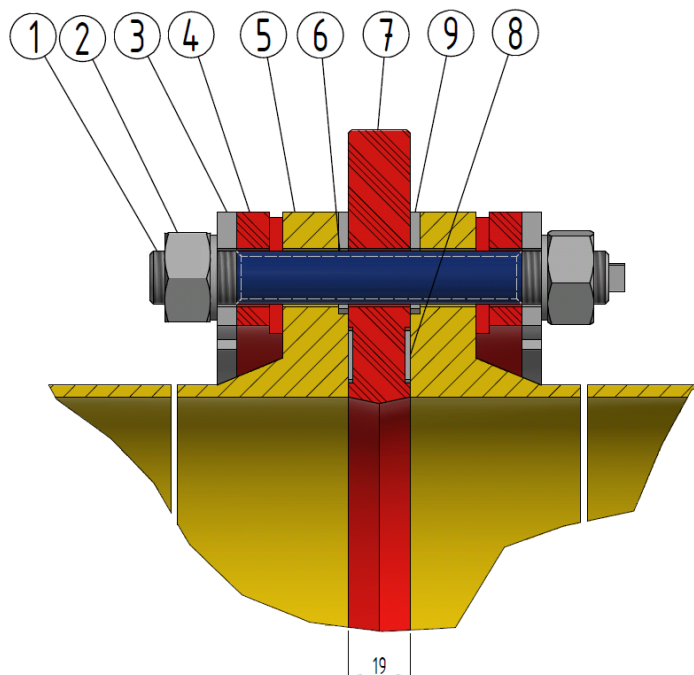

Figure 5
- **Insulating rings (item 4):**
- The insulating rings are mounted between the flange and the thrust collar as shown in Figure 5.